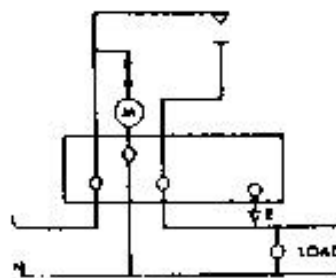
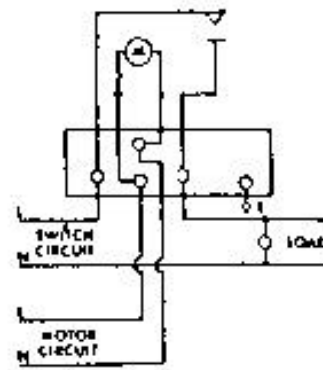

Fig. 3
Fig. 4
- 6 Connect switch to supply. (See relevant wiring diagram). Switches are supplied suitable for common motor connections (Fig 3). For independent motor connections (Fig 4) remove line link and moulded plug (Fig 2).